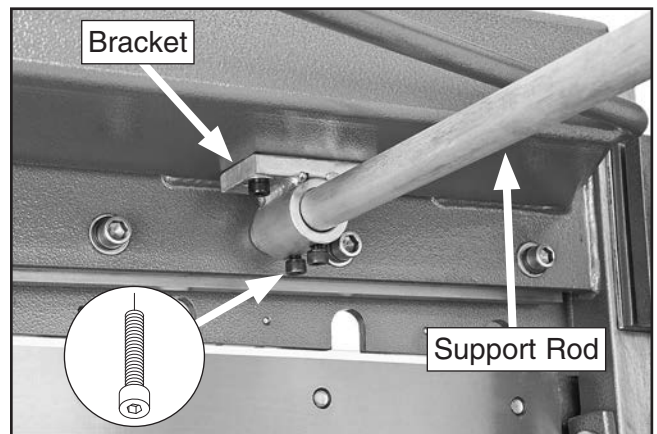

Figure 9. Rear work stop support rods secured in brackets with scales facing up.
2. Orient the rear work stop support rods so the scales face up, slide them into the brackets underneath the rear of the shear (see **Figure 9**), then tighten the pre-installed cap screws to secure the rods in place.